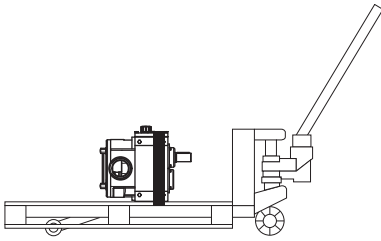

Fig. 44 Moving with pallet truck
- ▶ Ensure that the pump is adequately secured to the pallet, for example, with straps; see Fig. 44, "Moving with pallet truck," page 35.